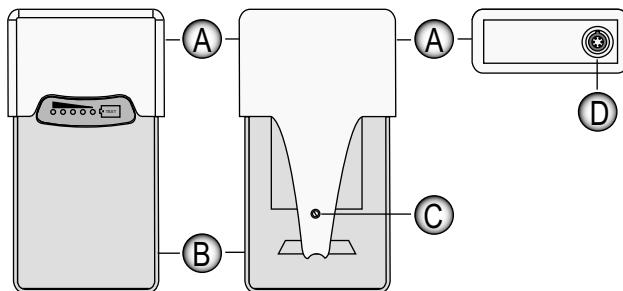

Figure 1: External battery and charger.
1. Remove the charger securing screw (C) in Figure 1 above.
4. Secure the charger securing screw (C) in Figure 1 above to the new battery.